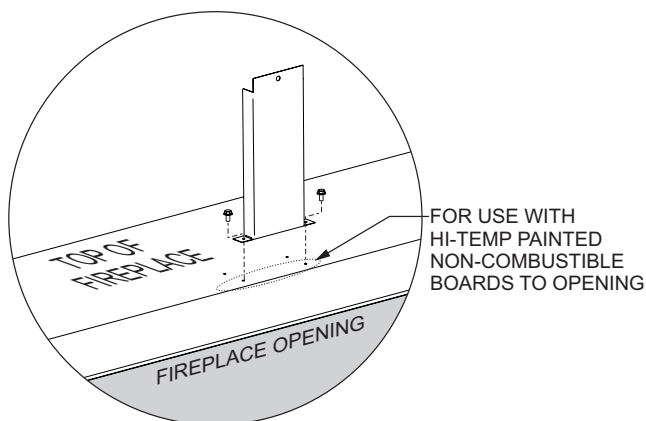

Figure 24
3. Secure the brackets to the fireplace top with six screws as shown in Figure 24. The screws are located in the hardware packet inside the envelope pack. There are holes located in the top of the fireplace for each standoff bracket. The hole closer to the front edge of the fireplace is for mounting noncombustible board around the opening (Finishing Option 1). The other hole is for mounting the non-combustible board flush to the fireplace face (top, side and bottom) (Finishing Option 2). See Figures 24 to 27.